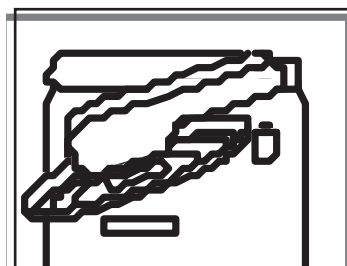

Fig. 4
6. To release, grasp the can firmly in one hand and raise the lever using the other hand. The magnetic lid lifter will retain the lid as shown in Figure 4.